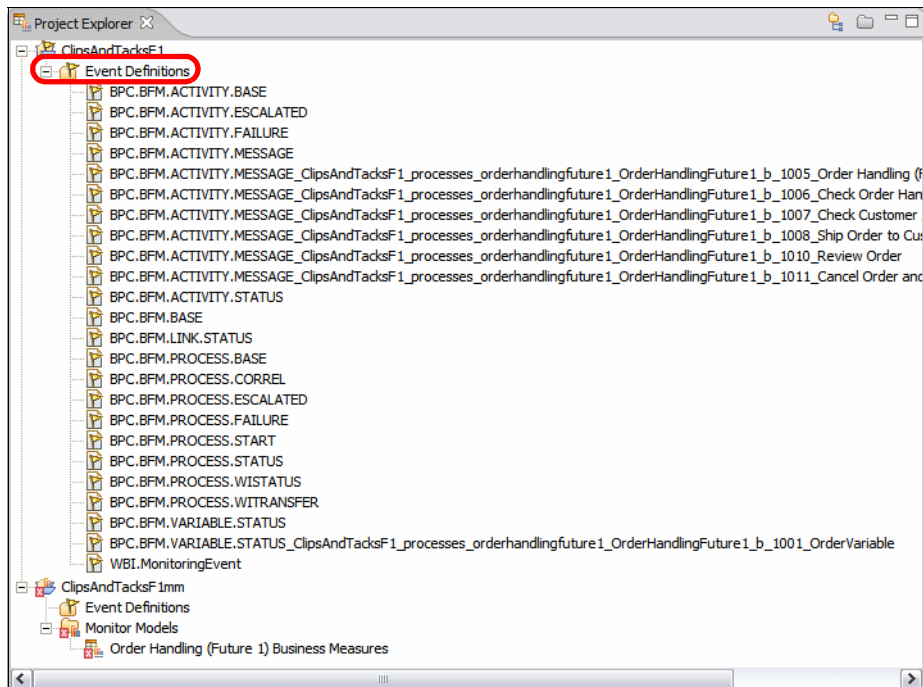

Figure 12-15 Generated monitoring events
- ▶ The events are visible in the Business Monitoring perspective Project Explorer (Figure 12-15).